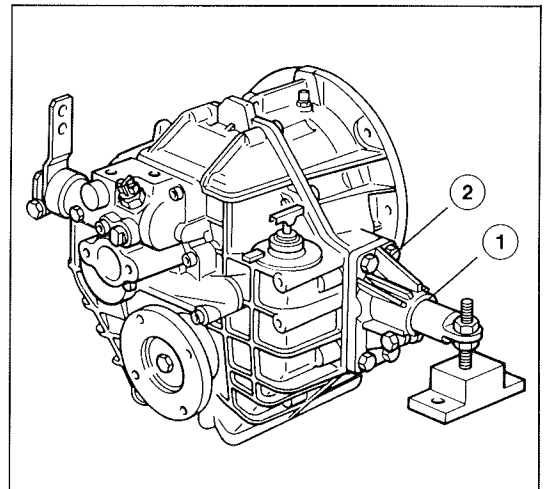

Figure 2
1. Locate support brackets (Figure 2, item 1) on the transmission left and right side and fasten with 4 hex head bolts (Figure 2, item 2) with thread M12, material property according to class 8,8 acc. to DIN or equivalent.